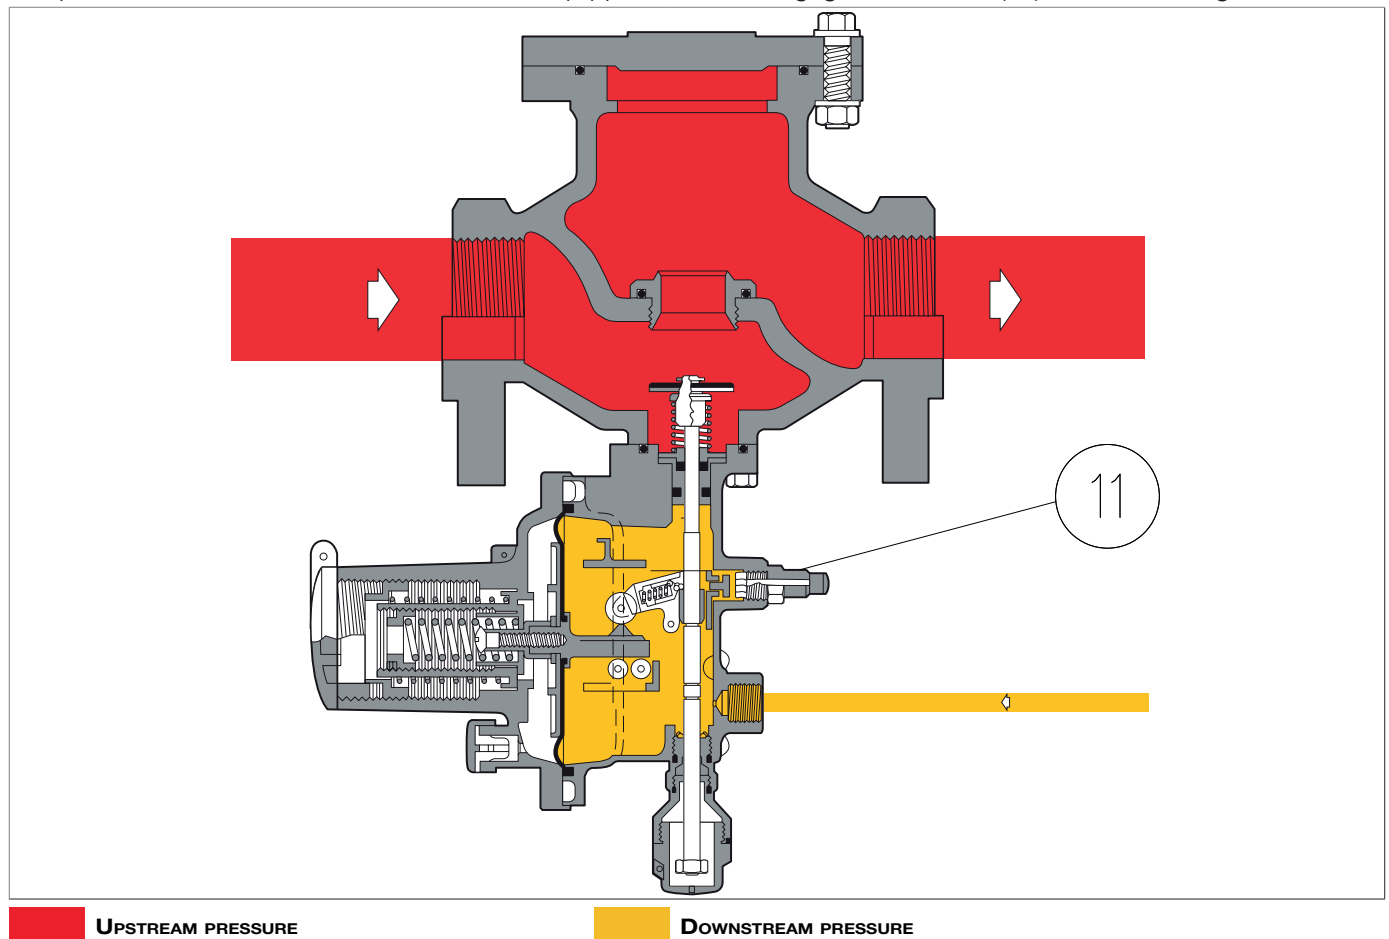

Fig. 4.3. Disengagement button for DILOCK 108
- pull the reset knob (2) downwards until the lever mechanism is reengaged
- wait for the upstream pressure ( $P_u$ ) to pass downstream of the pad (1), balancing it
- press the reset knob (2) into its seat.
The pressure switch for model DILOCK 108 is equipped with a disengagement button (11) as shown at Fig. 4.3: